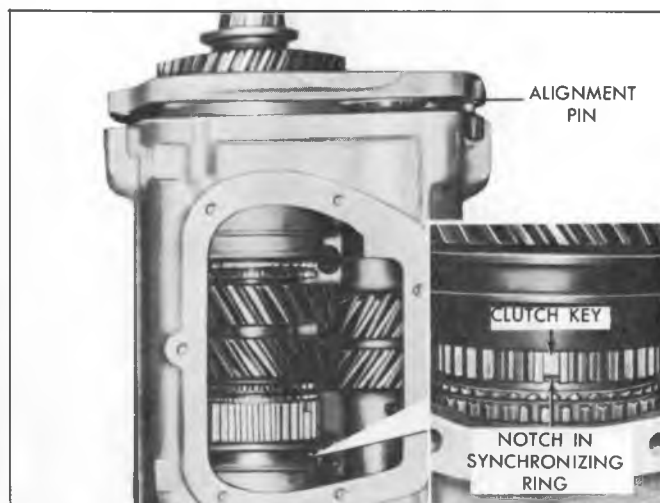

Fig. 18B—Installing Mainshaft Assembly
12. Lower the mainshaft assembly into the case making certain the notches on the fourth speed synchronizing ring correspond to the keys in the clutch assembly (fig. 18B).